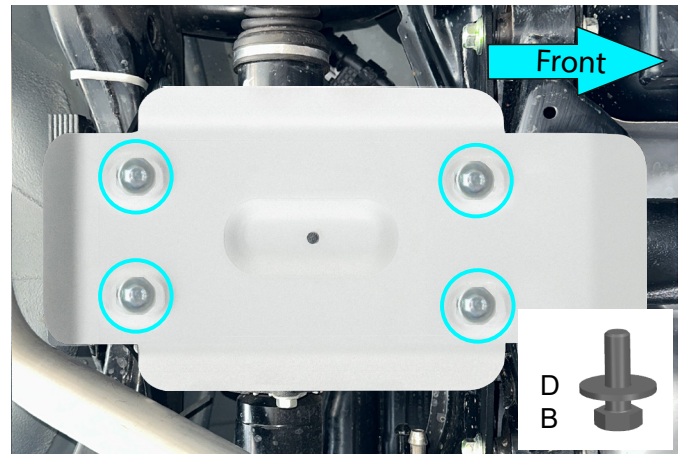

Fig. 4
4. Install the skid plate (item 1) using M8x25 bolts and M8 washers (item B,D) as shown in Fig.4.